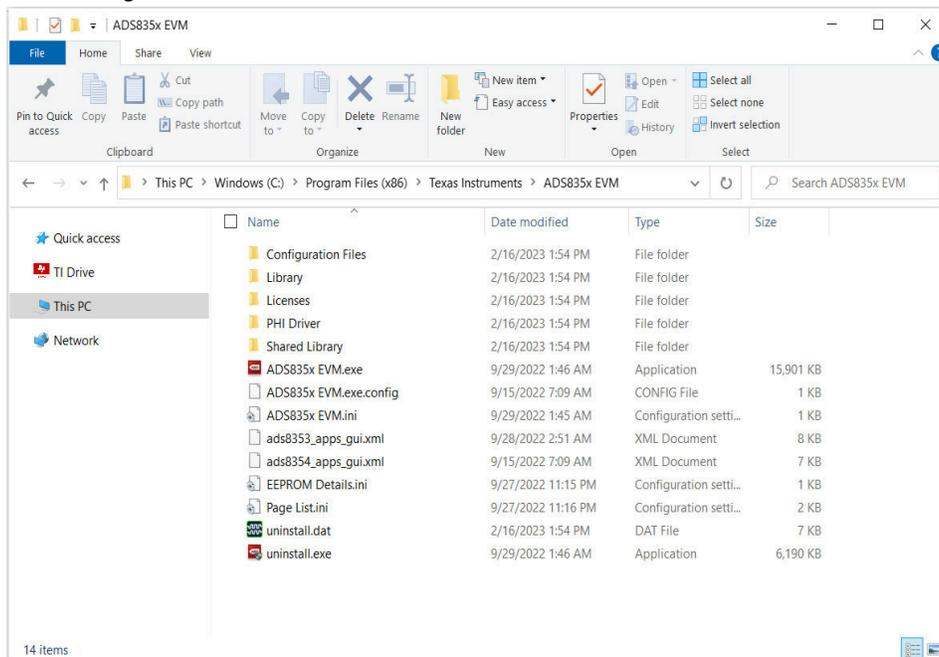

Figure 6-2. Launch the EVM GUI Software
3. Launch the device EVM GUI software from the installed path, as Figure 6-2 shows, or by using the desktop shortcut created during installation.